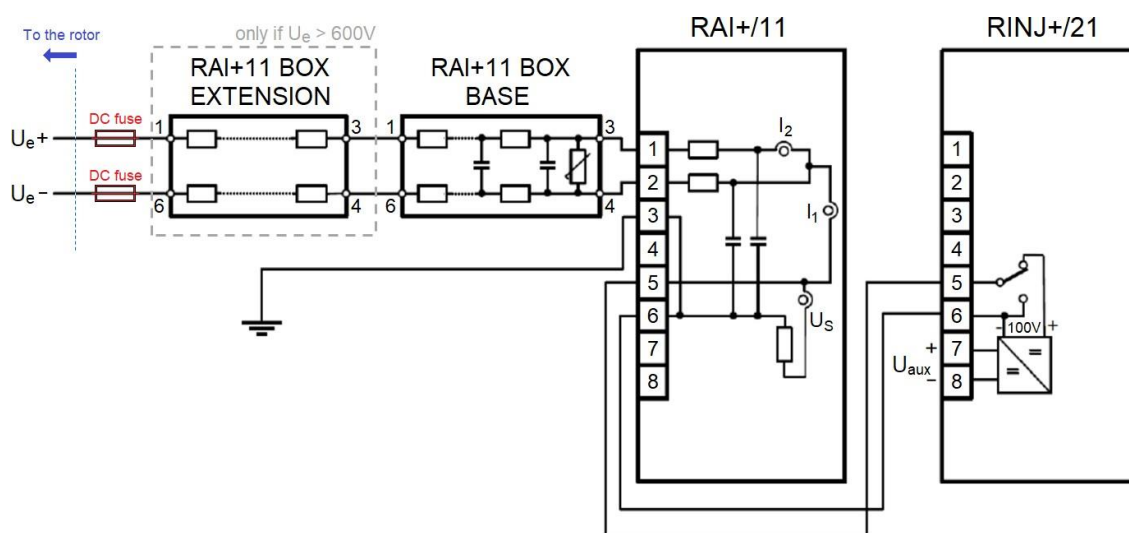

Figure 2-2 Wiring of internal (RINJ and RAI) and external (BOX) modules
Connections are made according to Figure 2-2, see below. The other figures of this section are based on this figure, and only those parts are shown that are different. The mentioned BOX refers to the one that connects to the generator itself (BASE, if it is the only BOX in use, and EXTENSION, if both are installed).
The excitation voltage is simulated by an external DC source, see the blue part (U) on the picture below. If the only DC supply is the auxiliary voltage that is used on the RINJ+/21 module (mentioned as  $U_{aux}$  in Figure 2-2), it can be utilized for this as well.